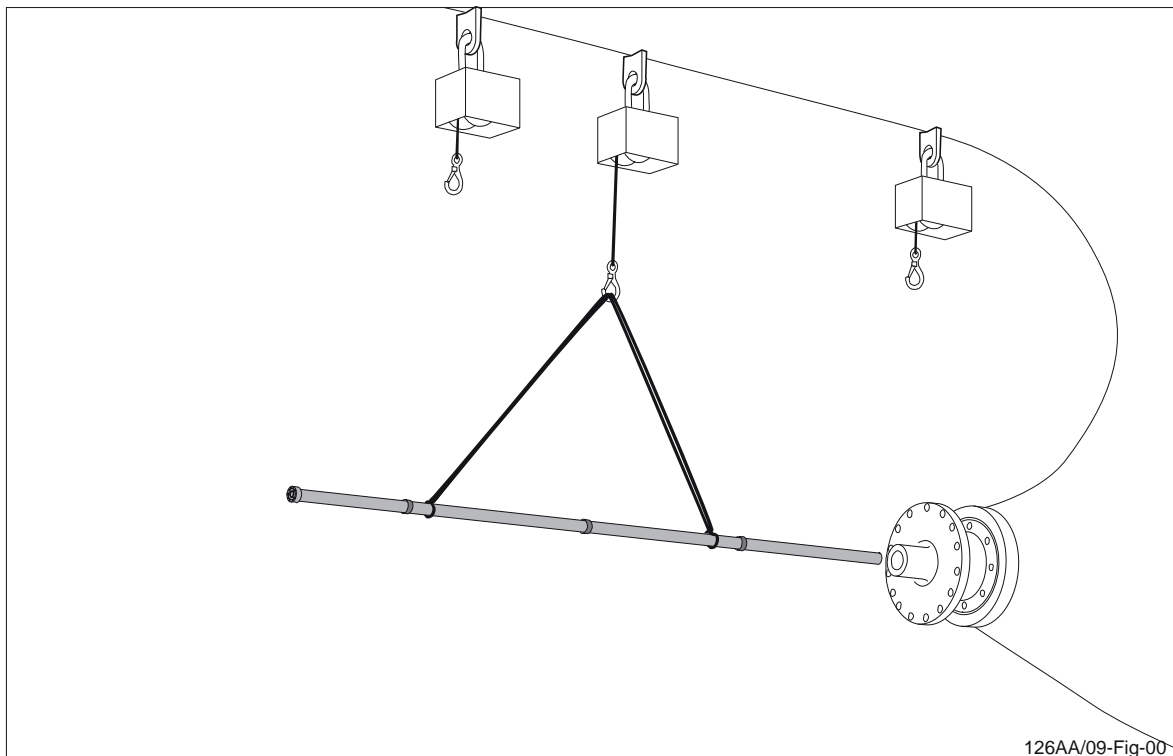

Figure 9 Lifting of the twin/single tube.
- Lift the twin tube assembly in front of the propeller shaft as shown in figure 9.